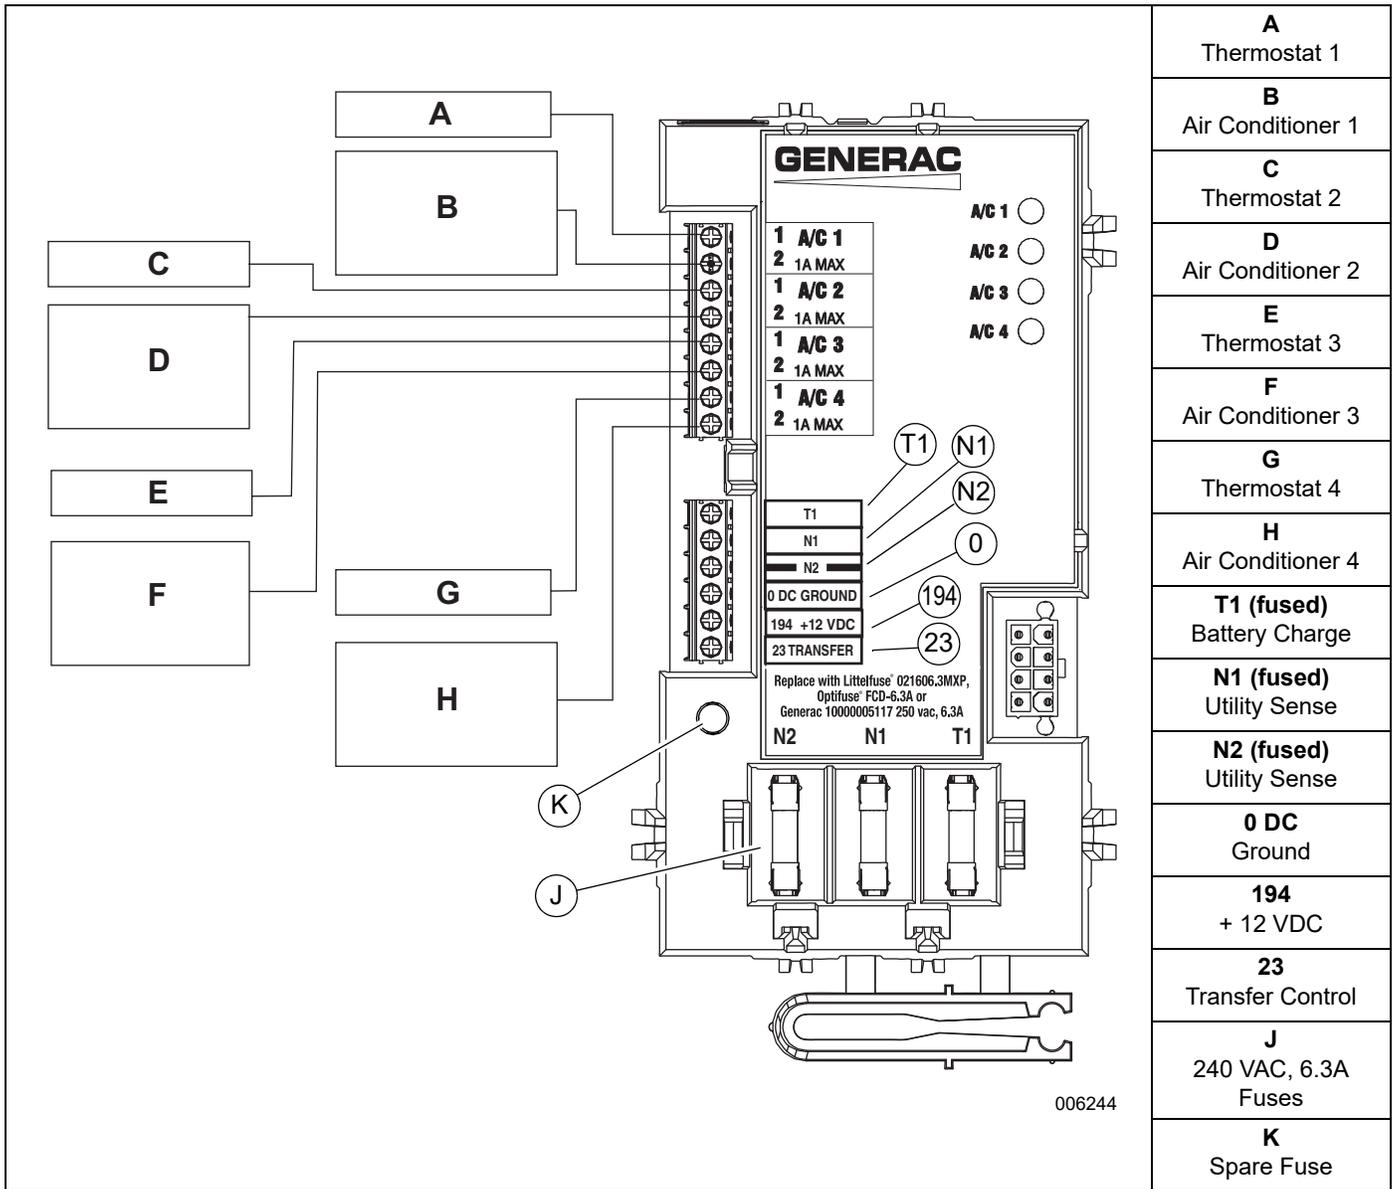

Figure 3-8. Typical SACM Connections
Control system interconnections consist of N1, N2, and T1, and leads 23, 0, and 194 (see Figure 3-8).
See Figure 3-8. The SACM can control an air conditioner (24 VAC) directly.
2. Connect the wire to the terminal strip terminals (A/C 1) on the SACM as shown in Figure 3-8. These are normally closed contacts which open upon load shed conditions. Route thermostat wire away from high voltage wires.